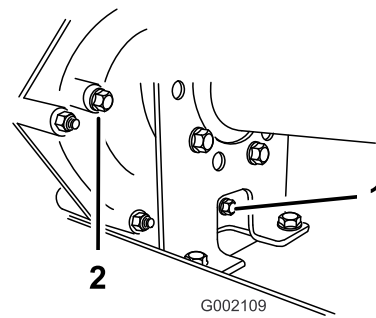
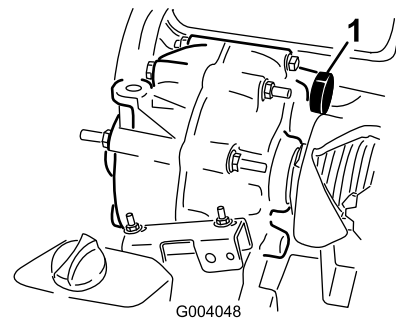

Figure 56
Figure 57
2. Wipe the area around the fill and drain plugs clean with a rag (Figure 56).
4. Remove the fill plug by rotating it counterclockwise (Figure 56).
5. Remove the drain plug by rotating it counterclockwise (Figure 56).
6. Install and tighten the drain plug and gasket into the drain-plug hole of the transmission (Figure 56).
7. Fill the reservoir (Figure 57) through the fill-plug hole with approximately 1.4 L (1.5 US qt) of the specified fluid or until the fluid level in the transmission is even with the bottom of the threads. (Figure 56).
8. Install and tighten the fill plug and gasket into the fill-plug hole of the transmission (Figure 56).
- Check the fluid level and add more fluid if the level is below the threads of the fill-plug hole (Figure 56).